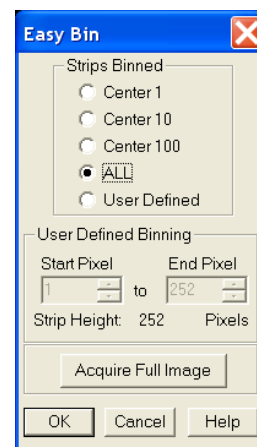
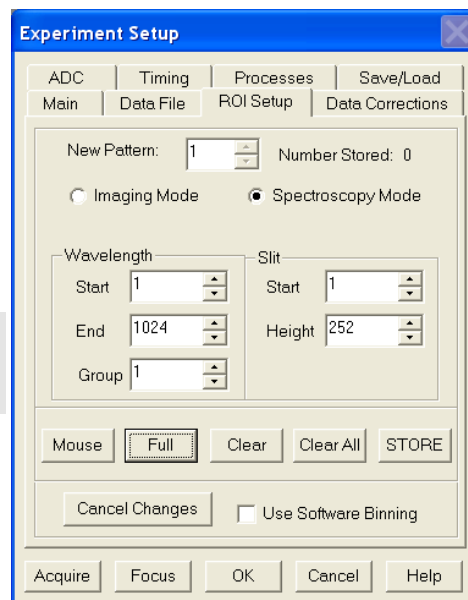

Figure 128. Easy Bin dialog
Figure 129. ROI Setup tab
A Region of Interest (ROI) may be the entire CCD array or it may be a rectangular subregion of the array. For data acquisition, the definition of such a region is done either from the **Easy Bin** dialog (Figure 128, page 142) accessed from the **Acquisition** menu or from the **Experiment Setup|ROI Setup** tab (Figure 129, page 143), accessible after selecting **Experiment Setup** from the **Acquisition** menu. Easy Bin is a simple way of a defining a single full chip width ROI. ROI Setup allows you to create multiple ROIs with greater flexibility in ROI location and width.
2. On the **Easy Bin** dialog (Figure 128), click on the appropriate radio button:
1. Open the **Experiment Setup** dialog and click on the ROI Setup tab to open the **ROI Setup** tab (Figure 129).